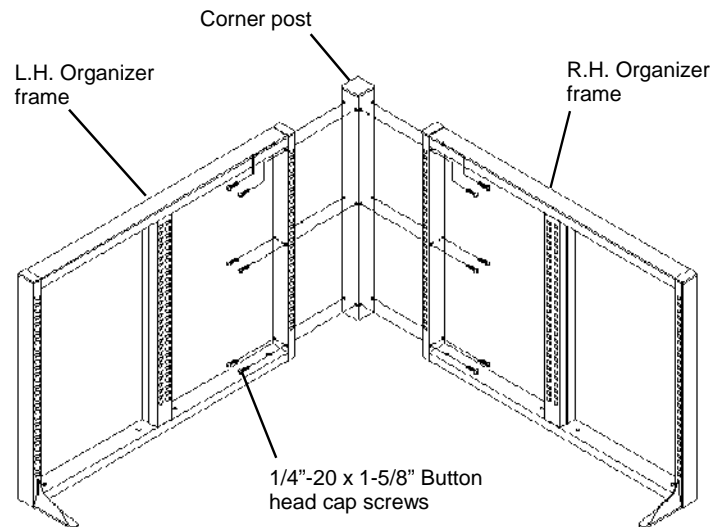

Figure 1.
1. Assemble Left hand and Right hand **Organizer frames** to the **Corner post** with the 1/4"-20 x 1-5/8" Button head cap screws provided. See **Figure 1**.